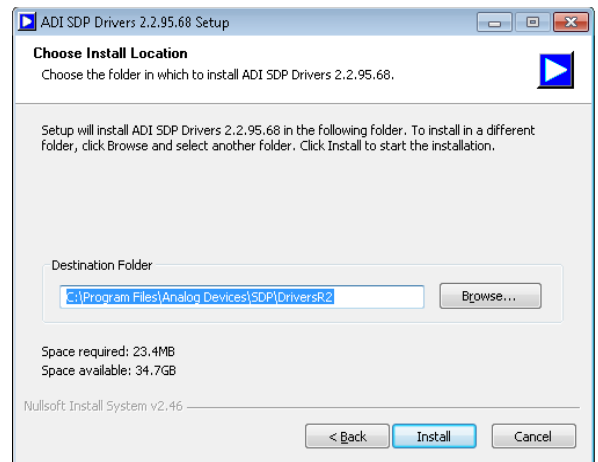

Figure 11. **Choose Install Location** Window
2. Choose the installation location and click **Install**; the default folder is shown in Figure 11.